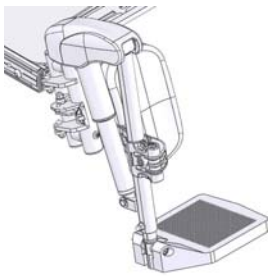

Figure 5-21
5.3.1.5.1 Powered Elevating & Swing away Footrest is shown as Figure 5-21.